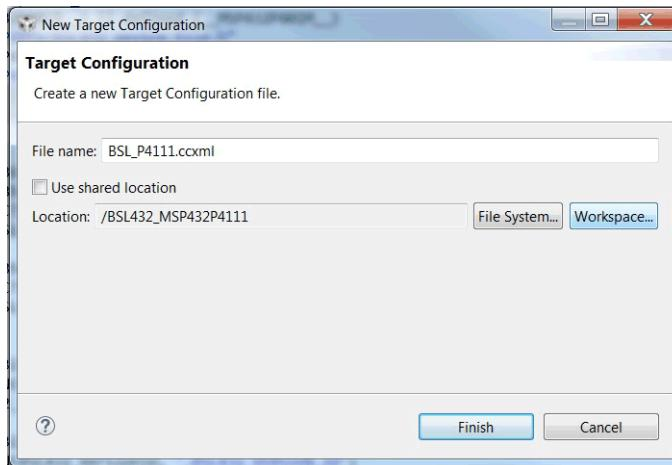

Figure 12. Target Configuration File
3. Enter the intended target configuration name, and also the location where to save this file. either in *File System*, or in this case the *Workspace* is chosen (see Figure 12).